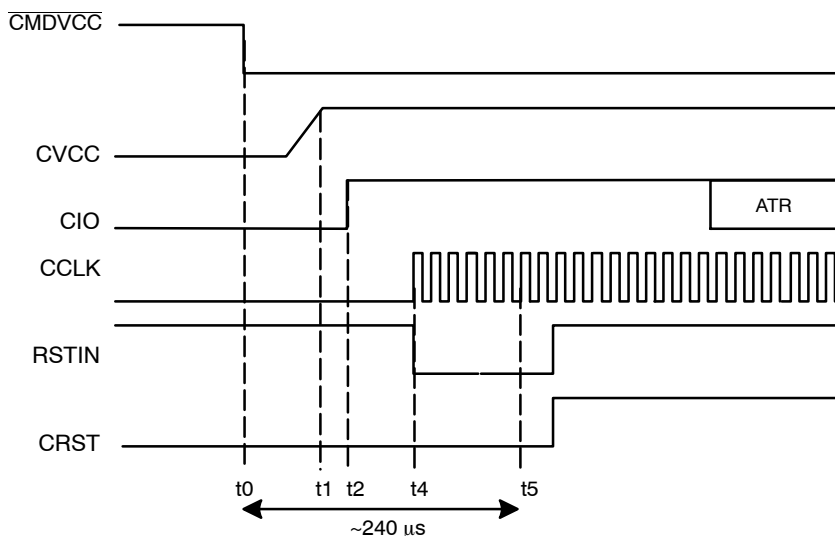

Figure 4. Activation Sequence – RSTIN Mode (RSTIN Starting High)
The clock can also be applied to the card using a **RSTIN mode** allowing controlling the clock starting by setting RSTIN Low (Figure 4). Before running the activation sequence, that is before setting Low  $\overline{\text{CMDVCC}}$  RSTIN is set High. The following sequence is applied:
- Between t2 (Figure 4) and t5 = 240  $\mu\text{s}$ , RSTIN is reset to LOW and CCLK will start precisely at this moment allowing a precise count of clock cycles before toggling CRST Low to High for ATR (Answer To Reset) request.